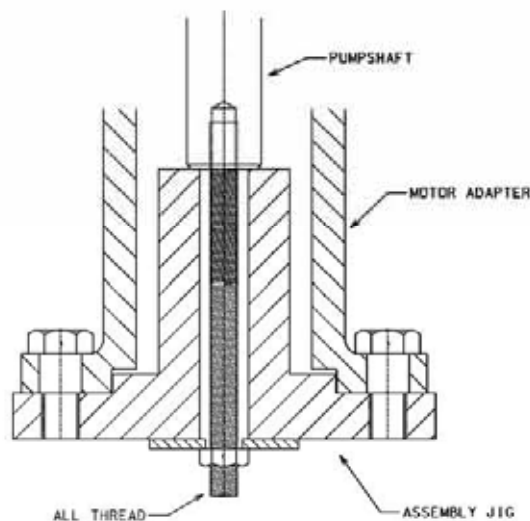

Figure 7-3 Assembly Jig
- A. Secure the submersible assembly jig to the motor end of the motor adapter (See fig. 7-3). Be sure to use the proper jig for the motor frame size the bowl assembly is intended to adapt to.
- B. Put some grease in the suction bearing of the motor adapter. Slide the shaft through the bearing. Secure the shaft in place by locking the shaft to the assembly jig with a special long bolt or all thread and a hex nut. (See Fig. 7-3)
- D. Hold impeller firmly against the motor adapter and drive the taperlock into place with the taperlock driver. (See Figure 7-3) After the impeller is secured in position, the top end of the taperlock should be 1/8" above the impeller hub.